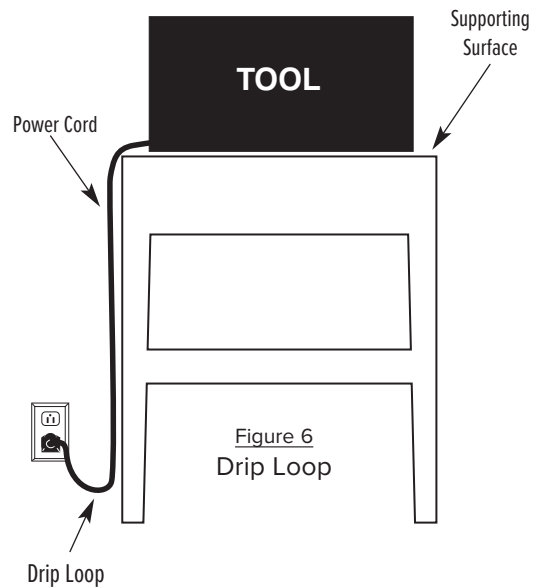

Figure 6
- To avoid the possibility of the appliance plug or receptacle getting wet, position tile saw to one side of a wall mounted receptacle to prevent water from dripping onto the receptacle or plug. The user should arrange a “drip loop” in the cord connecting the saw to a receptacle. The “drip loop” is that part of the cord below the level of the receptacle, or the connector if an extension cord is used, to prevent water traveling along the cord and coming in contact with the receptacle. See Figure 6.